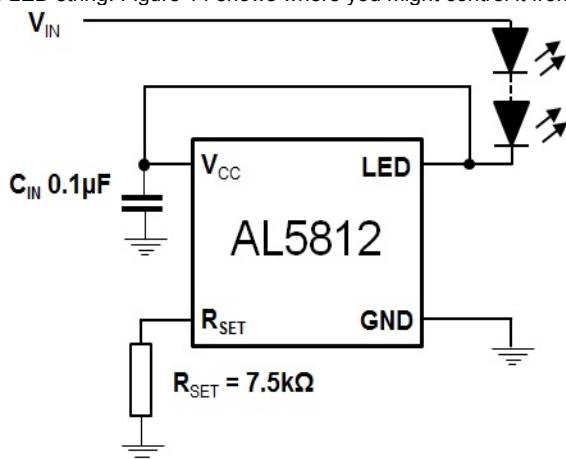
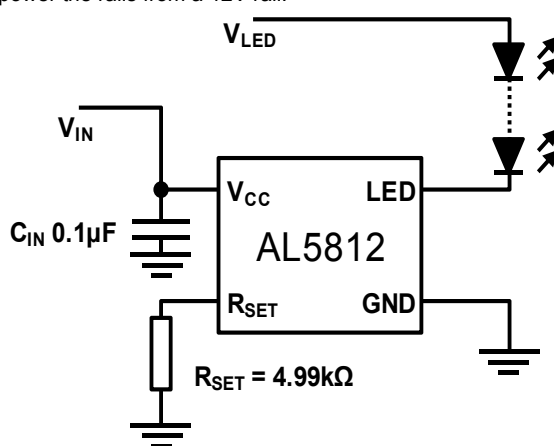
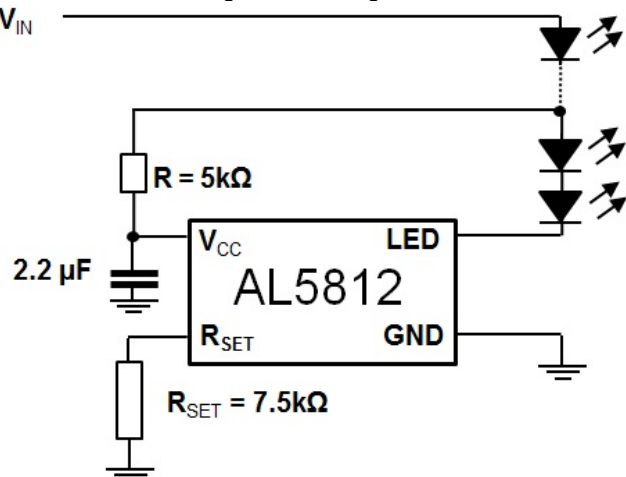
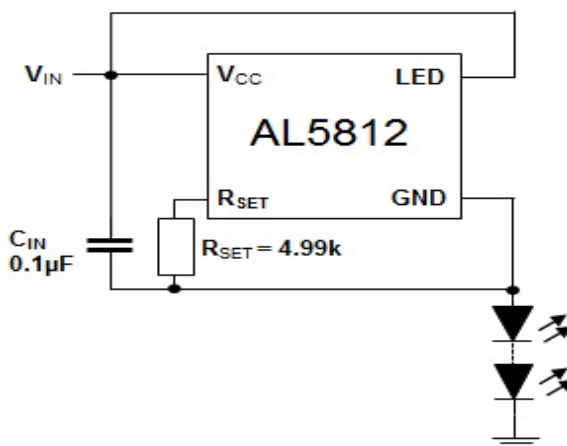

Figure 13 Low Side Current LED Setting
Figure 14 Low Side Drive – Separate Supplies
Figure 15 Low Side LED String Tapping
Figure 16 High Side Current LED String
13. The AL5812 has its  $V_{CC}$  pin connected to its LED pin, which are connected to the positive input supply voltage.  $R_{SET}$  is connected to AL5812 GND pin, which is connected to the anode of the LED chain. This creates a high side driver of the LED chain. See Figure 15.
The AL5812 is a Linear LED driver and in normal operation has the LEDs connected to the same potential as its  $V_{CC}$  pin and regulates the LED current by sinking current into to its LED pin see Figure 13.
The AL5812 with its 60V capability on its supply pin,  $V_{CC}$ , and its LED drive pin allows it to operate from supply rails up to 60V and/or directly drive LED chains up to 60V as shown in Figures 13 and 14. The voltage applied to the  $V_{CC}$  pin can be greater or lower than the voltage applied to the LED string. Figure 14 shows where you might control it from a 5-V rail but power the rails from a 12V rail.
An extension of Figure 14 is to derive the power for the AL5812 from the LED chain itself see Figure 15. LED chains greater than 60V can be driven in this manner as long as PWM dimming is not utilized.
Figure 15 shows the use of RC delay to match the power time delay between VCC and LED pin. The AL5812 can also be used on the high side of the LEDs, see Figure 16. This is a simple way of extending the maximum LED chain voltage, however, it does increase the minimum system input voltage to: